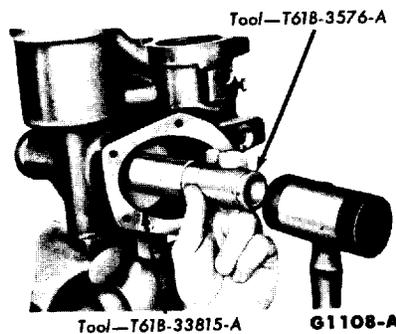

FIG. 22—Upper Bushing Installation
8. Install the upper bushing, using the tool shown in Fig. 22.